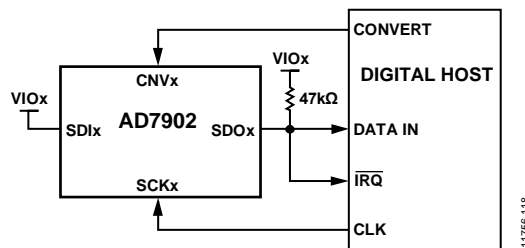
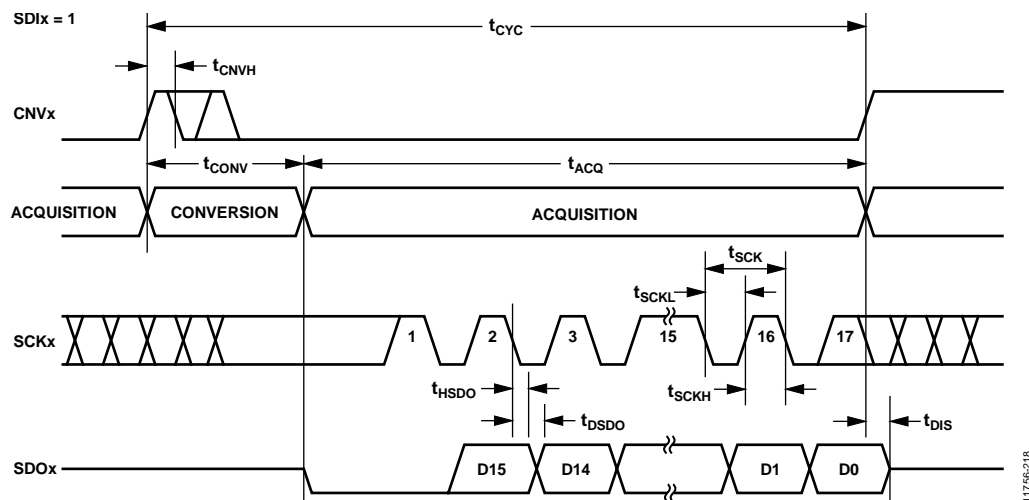
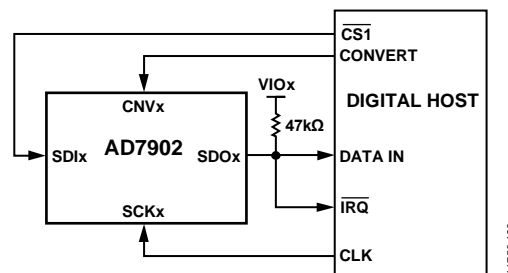
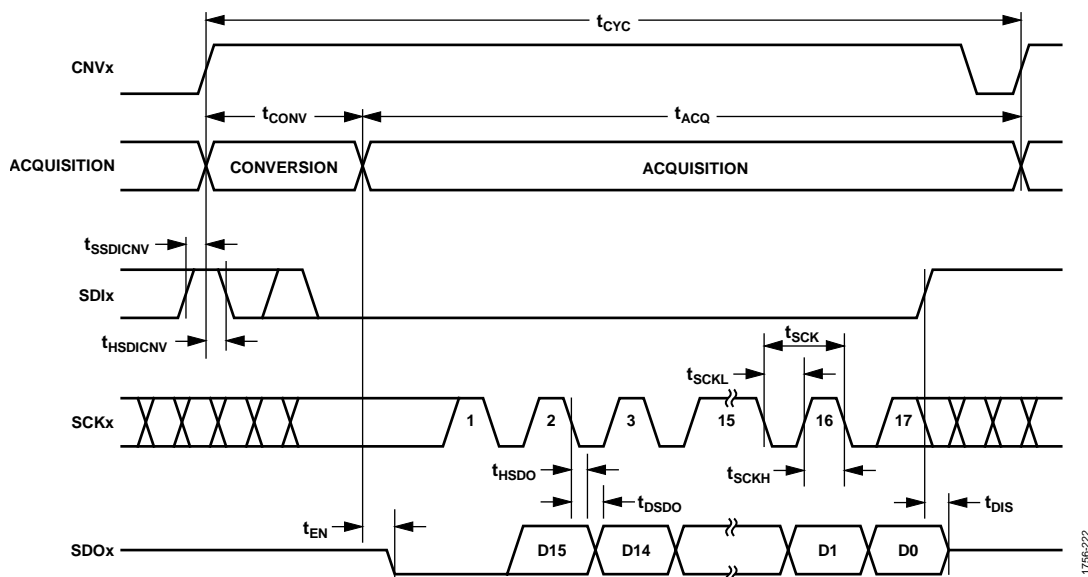

Figure 40. \overline{CS} Mode, 3-Wire Interface with a Busy Indicator Connection Diagram ($SDIx$ High)
Figure 41. \overline{CS} Mode, 3-Wire Interface with a Busy Indicator Serial Interface Timing ($SDIx$ High)
Figure 44. $\overline{\text{CS}}$ Mode, 4-Wire Interface with a Busy Indicator Connection Diagram
Figure 45. $\overline{\text{CS}}$ Mode, 4-Wire Interface with a Busy Indicator Serial Interface Timing
- In \overline{CS} mode when CNVx or SDIx is low when the ADC conversion ends (see Figure 41 and Figure 45).
The connection diagram is shown in Figure 40, and the corresponding timing is shown in Figure 41.
The connection diagram is shown in Figure 44, and the corresponding timing is given in Figure 45.